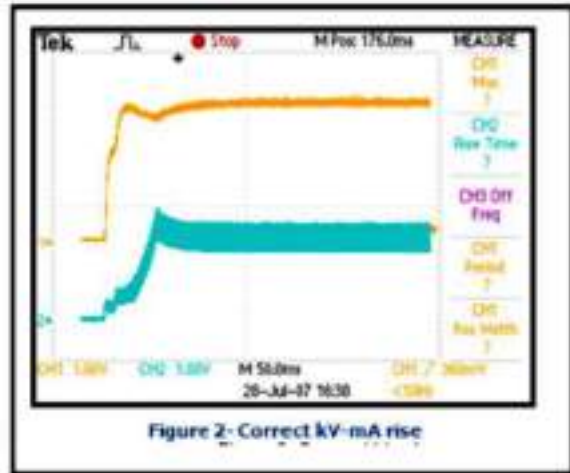

Figure 2- Correct kV-mA rise
- Do the waveforms appear as shown in Figure 2?